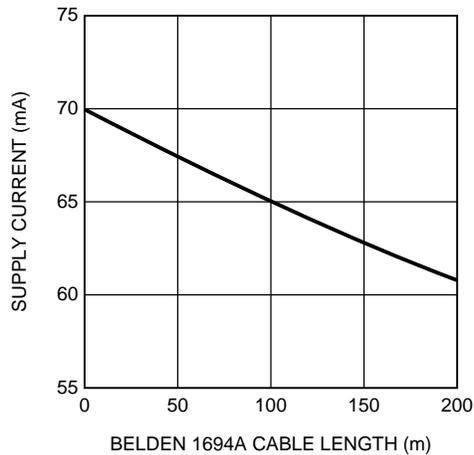
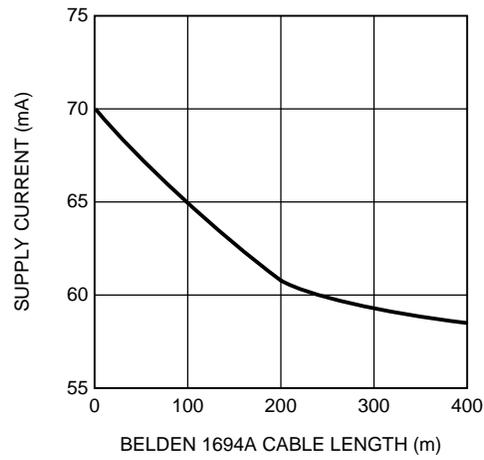

Figure 2. Supply Current vs. Belden 1694A Cable Length, 1.485 Gbps
Figure 3. Supply Current vs. Belden 1694A Cable Length, 270 Mbps
- Supply current depends on the amount of cable being equalized. The current is highest for short cable and decreases as the cable length is increased. Refer to Figure 2 and Figure 3.
The supply current (I_{CC}) depends on the amount of cable being equalized. The current is highest for short cable and decreases as the cable length is increased. Figure 2 shows supply current vs. Belden 1694A cable length for 1.485 Gbps data and Figure 3 shows supply current vs. Belden 1694A cable length for 270 Mbps data.